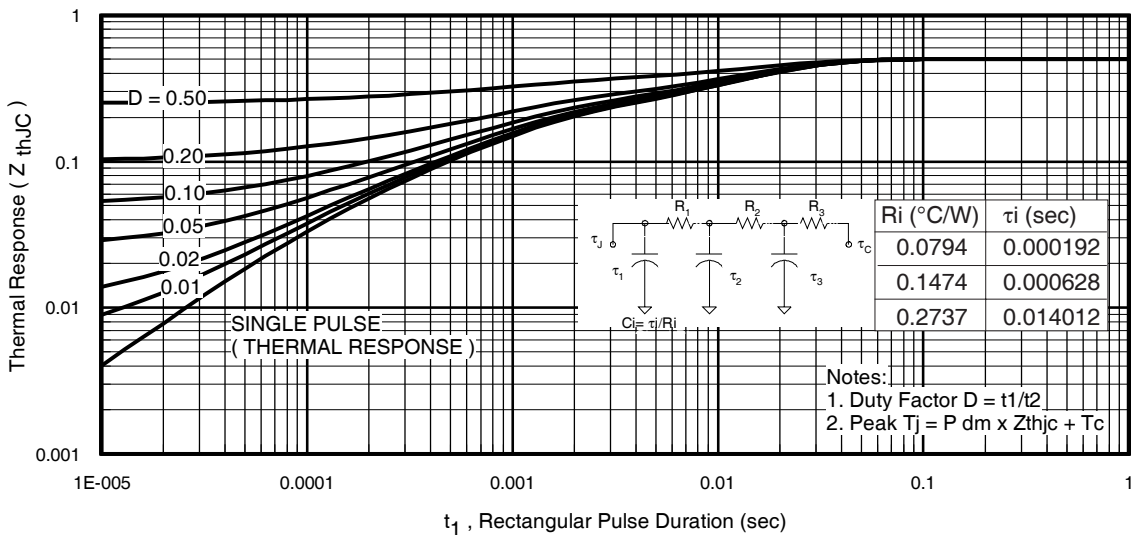
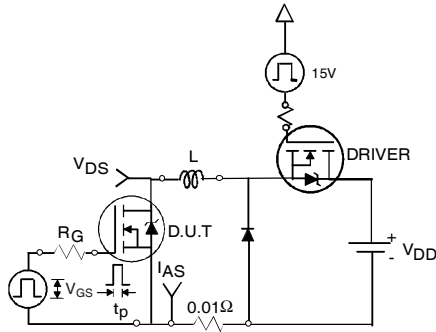

Fig 11. Maximum Effective Transient Thermal Impedance, Junction-to-Case
Fig 12a. Unclamped Inductive Test Circuit
- ① Repetitive rating; pulse width limited by max. junction temperature. (See fig. 11).
- ② Limited by T_{Jmax} , starting $T_J = 25^\circ\text{C}$, $L = 0.043\text{mH}, R_G = 25\Omega, I_{AS} = 140A, V_{GS} = 10V$. Part not recommended for use above this value.
- ③ Pulse width $\leq 1.0\text{ms}$; duty cycle $\leq 2\%$.
- ④ $C_{oss\text{ eff.}}$ is a fixed capacitance that gives the same charging time as C_{oss} while V_{DS} is rising from 0 to 80% V_{DSS} .
- ⑤ Limited by T_{Jmax} , see Fig.12a, 12b, 15, 16 for typical repetitive avalanche performance.
- ⑥ This value determined from sample failure population. 100% tested to this value in production.
- ⑦ This is applied to D²Pak, when mounted on 1" square PCB (FR-4 or G-10 Material). For recommended footprint and soldering techniques refer to application note #AN-994.
- ⑧ R_θ is measured at T_J of approximately 90°C .
- ⑨ Solder mounted on IMS substrate.
3. Equation below based on circuit and waveforms shown in Figures 12a, 12b.
$Z_{thJC}(D, t_{av})$ = Transient thermal resistance, see figure 11)